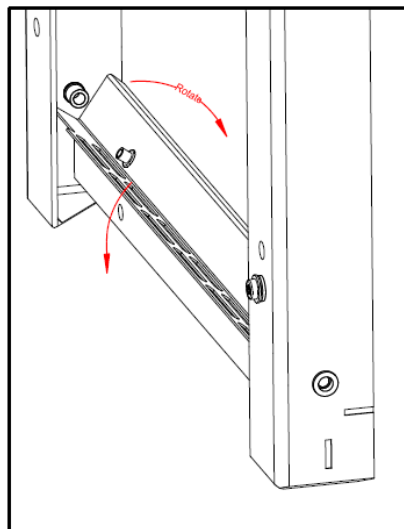

Figure 2
- Rotate the top of the Frame Vent in the direction shown in Figure 2 and push it down into the gap between the frame bracket verticals and the shelf support.